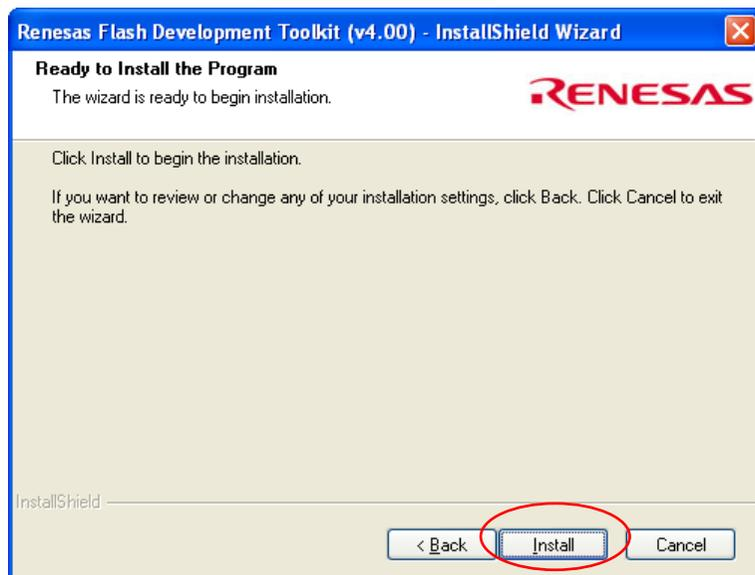

Figure 62:
10. Click install to begin program installation (Figure 62).